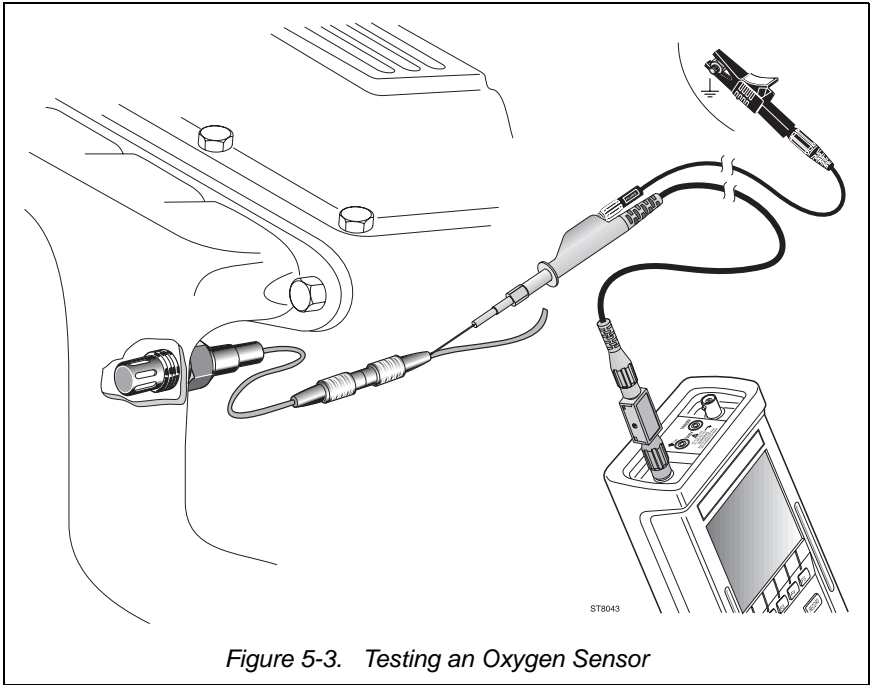

Figure 5-3. Testing an Oxygen Sensor
③ Connect the test leads as displayed by the test tool's Connection Help and shown in Figure 5-3.
④   Starts the oxygen sensor test.